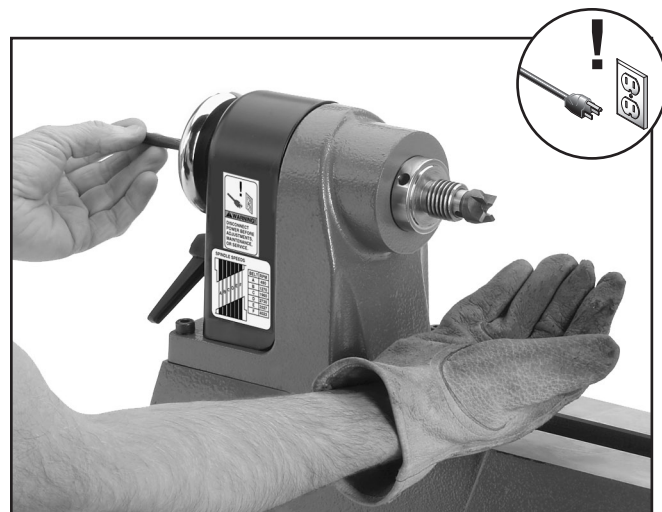

Figure 13. Removing spur center using the knock out bar.
3. Using the knock-out bar, tap the center from the outside end of the spindle (as shown in **Figure 13**) and catch the center as it falls out.